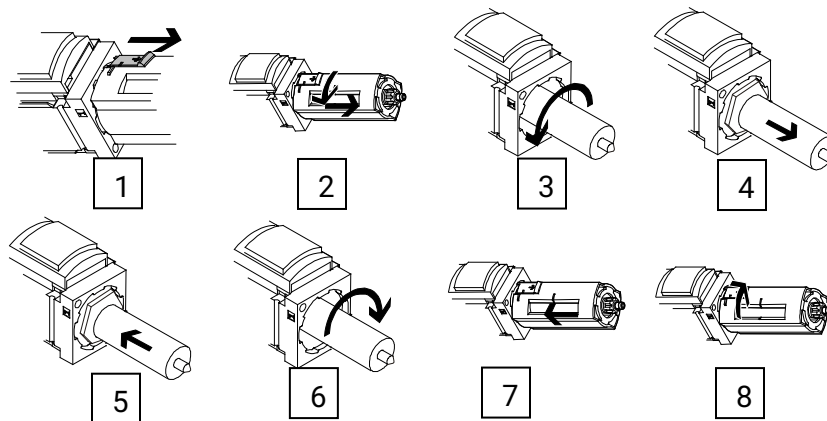

Figure 9. Backup filter changing procedure
- > dismount the backup filter casing from its housing metal block by pulling the blue lock on the casing downwards while simultaneously twisting the casing 45° counterclockwise: steps (1) & (2) in Figure 9
- > screw out the filter and its underneath holder by turning them about 2½ full turns counterclockwise (3)
- > pull off the filter from the holder and place it in a clean storage bag (4)
- > insert a new filter in the holder until it reaches the end of the holder (5) & (6)
- > mount the filter casing by pushing it back into its housing block and turn it 45° clockwise (7) & (8)